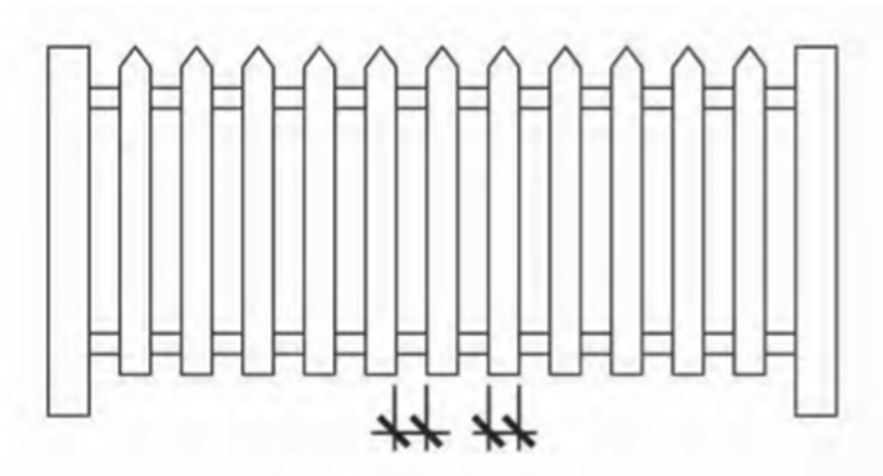

Figure 23.06.40a; Fencing Standards
- ⇒ With the exception of fences used for required screening, any fence located in the front yard shall be a maximum of 50 percent opaque, meaning that the spaces between the pickets are equal to or greater than the width of the pickets. See Figure 23.06.40a.